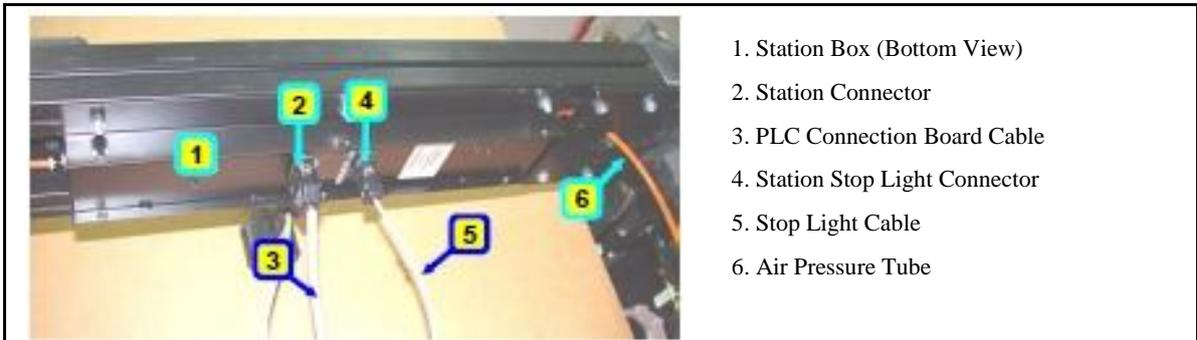

Figure 17: Station Box – Bottom View
- Attach the Station Cable to the required Station Box using a 25 pin connector (see #2 and #3 in Figure 17). Any spare cable length should be stored between the conveyor rails.
- Attach the Station Light of each station to the conveyor rail using T-Slot screws and connect its 9 pin connector to the Station Box. (See #4, Figure 17).
- From the central air supply, thread the Air Pressure Tubes (see #6 in Figure 17) through the Conveyor (use the Omegas as support and loop them from station to station). Ensure the loop is closed to prevent air leakage.